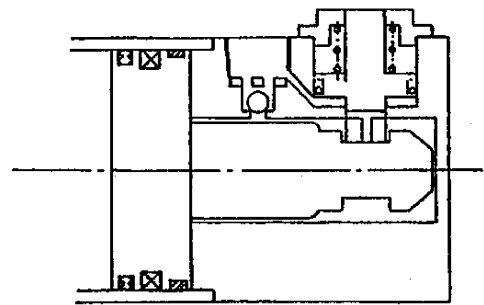

Fig. 2
- (b) When the piston of cylinder further comes closer to its stroke end and the groove⑥ of sleeve matches to the tail of stopper piston⑤, the stopper piston drops back to the groove ⑥ due to expansion force of spring④, generating an effect of locking the piston of cylinder. (Fig. 2)